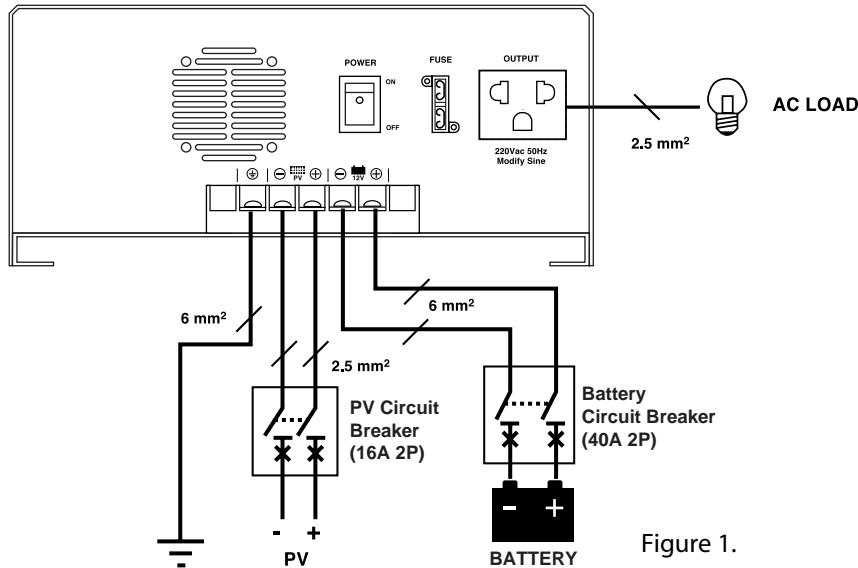

Figure 1.
- 4.1.2 Connect grounding wire at the PE/EARTH (⏚) position by using copper wire sizing in Figure 1.